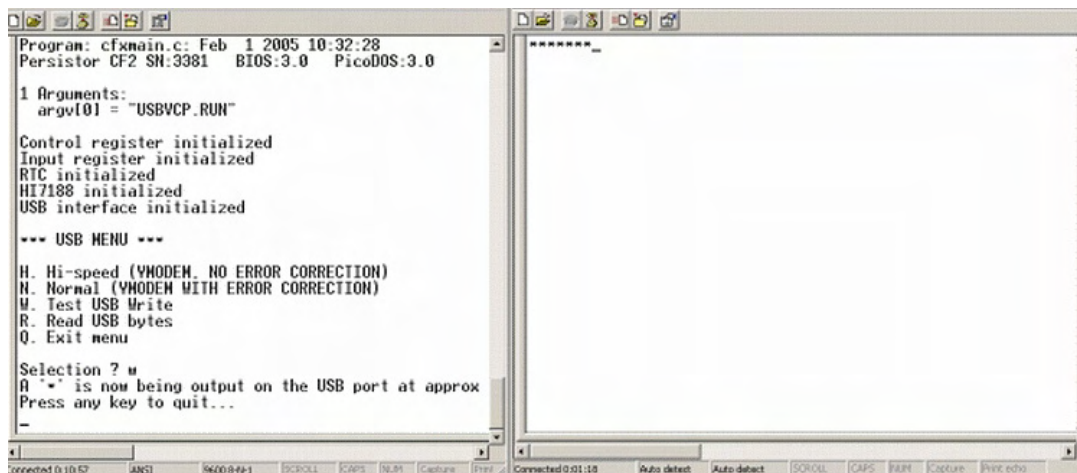

Figure 21 - USBVCP Write test
9. If this is your first time using the USB port, or you are experiencing problems, try a simple write test from the STOR-X over the USB port by typing **W** in the RS-232 HyperTerminal window. This will output a * to the USB port at a 1 second update rate, as shown Figure 21. Press any key in the STOR-X HyperTerminal window to stop the test. You will be returned to the main menu.